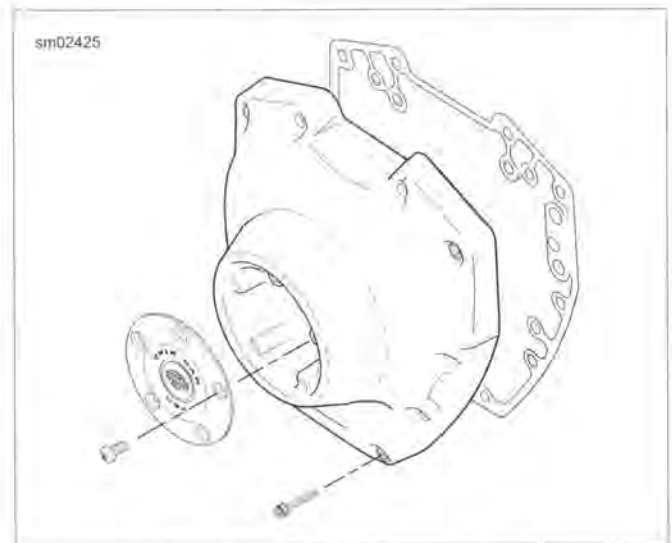

Figure 3-105. Cam Cover Gasket
17. See Figure 3-105. Install cam cover and **new** cam cover gasket.